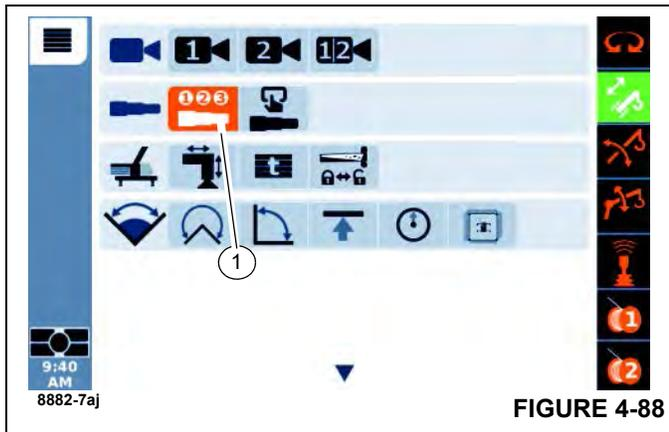

FIGURE 4-88
- Enter the Semi-Auto screen on the operating display. The icon for this screen is (1), (Figure 4-88).